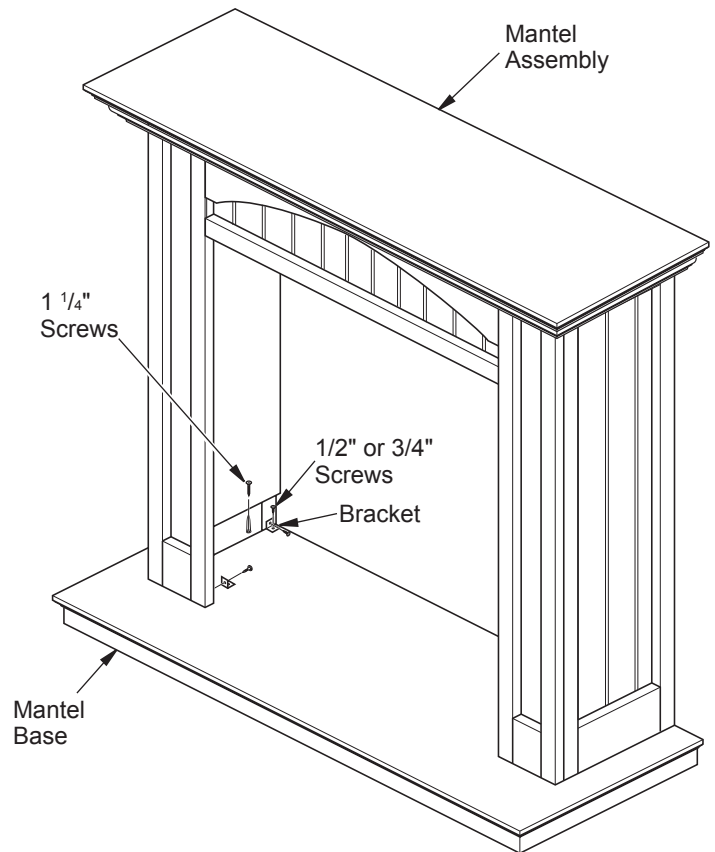

Figure 7 - Attaching Mantel Assembly to Base
8. Place mantel assembly onto mantel base and center left to right with back of assembly flush with back of base (see Figure 7, page 3). Use 1 1/4" screws in pocket holes to attach mantel assembly to mantel base. Using brackets and 1/2" or 3/4" screws from this hardware kit (118983-01) attach support brackets to base and mantel assembly - one at each back corner of the leg sides and one on each leg front (see Figure 7).